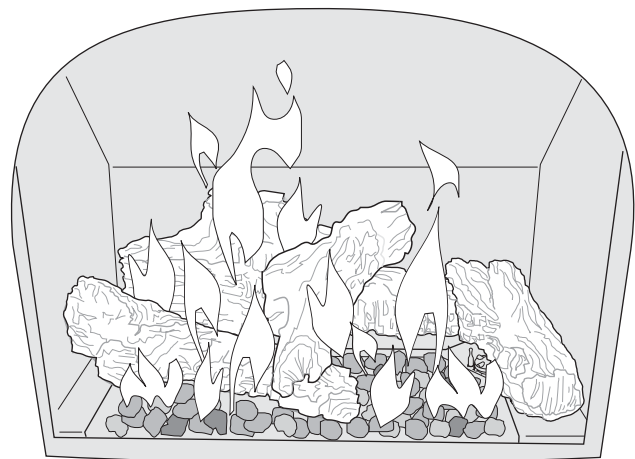

Figure 38. Flame appearance on the "high" setting after approximately 15 to 20 minutes burning.
**3. BURNER ADJUSTMENT:** This stove is equipped with a variable gas control valve that allows easy adjustment of the flame height and heat output. To adjust the flame intensity, rotate the HI/LOW knob. Flame height will adjust approximately 50% between the LOW and HIGH settings. See fig. 38.